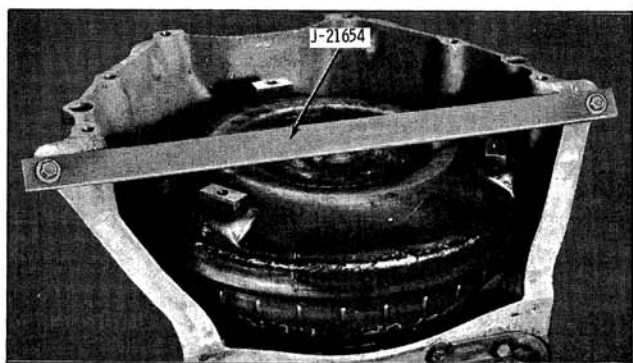

Fig. 6-344 Converter Holding Tool J-21654
14. Install Converter Holding Tool J-21654. (Fig. 6-344)